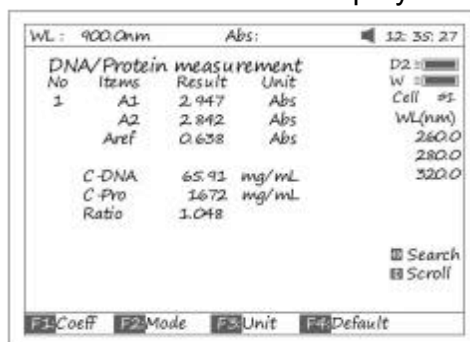

Fig 65
- Pull the sample cuvette into Main Light Path, press **【START】** to test the sample. The test result will be displayed on the screen (Fig 65).